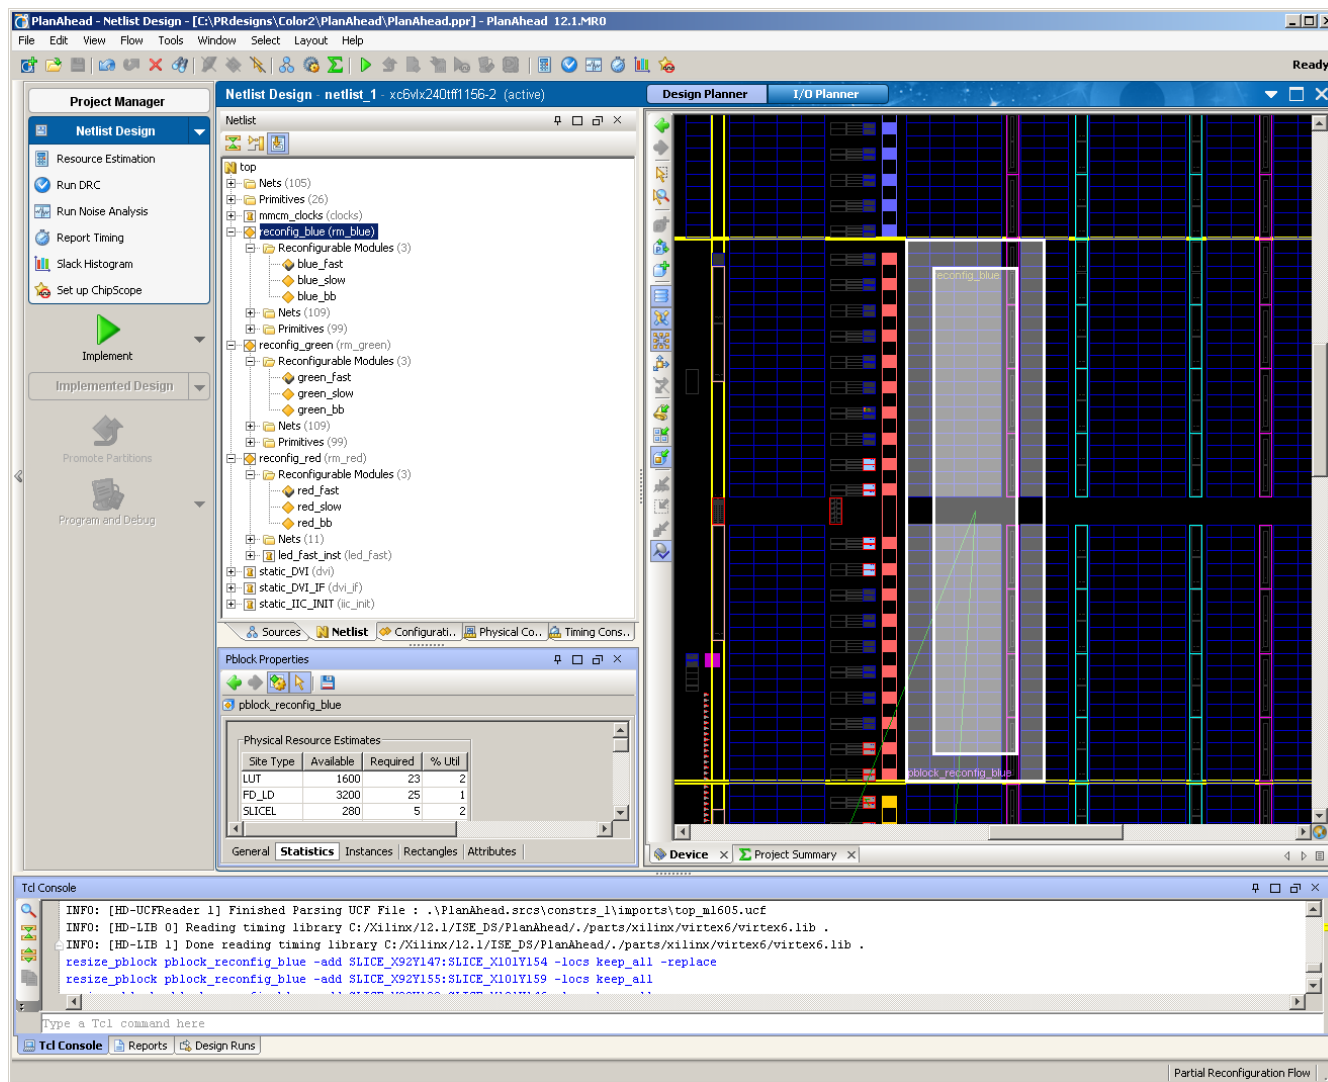

Figure 4-14: Drawing a Pblock for a Reconfigurable Partition
1. Select the Pblock to be defined in the Physical Hierarchy pane to enable this command as shown in Figure 4-14.